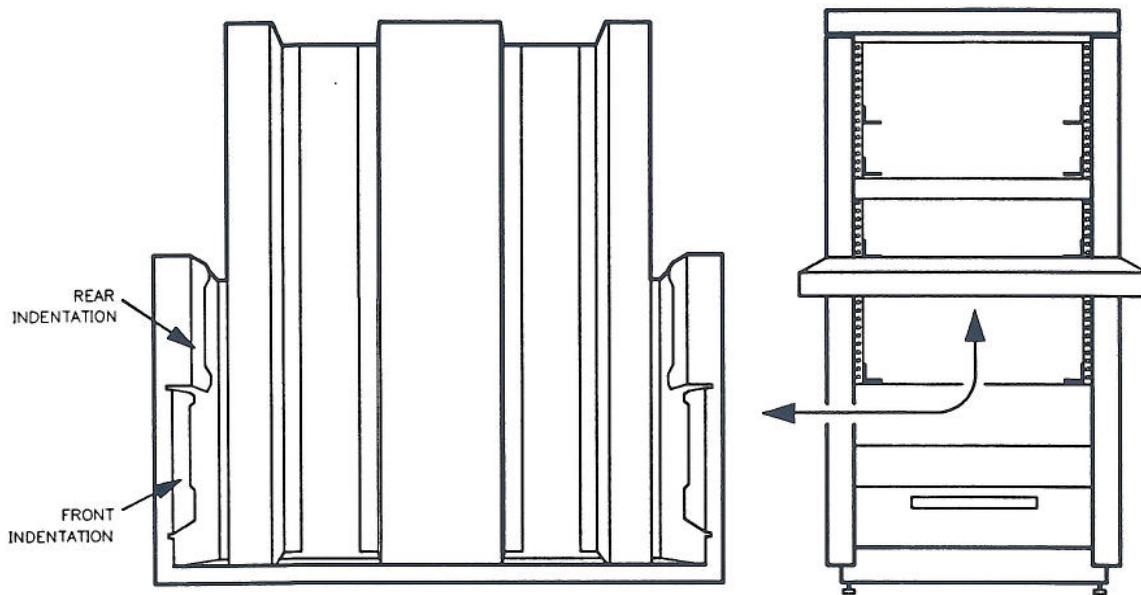

Figure 3-4. Work Surface Indentations; Table Clip Attachment Points
2. If you want to attach the equipment table in the L-shaped position, engage the *uncoated* end of the table attaching clip over the indentation toward the *front* of the work surface (see Figure 3-4). Continue with step 4.
3. If you want to attach the equipment table in the side-by-side position, engage the *uncoated* end of the table attaching clip over the indentation toward the *rear* of the work surface (see Figure 3-4). Continue with step 4.